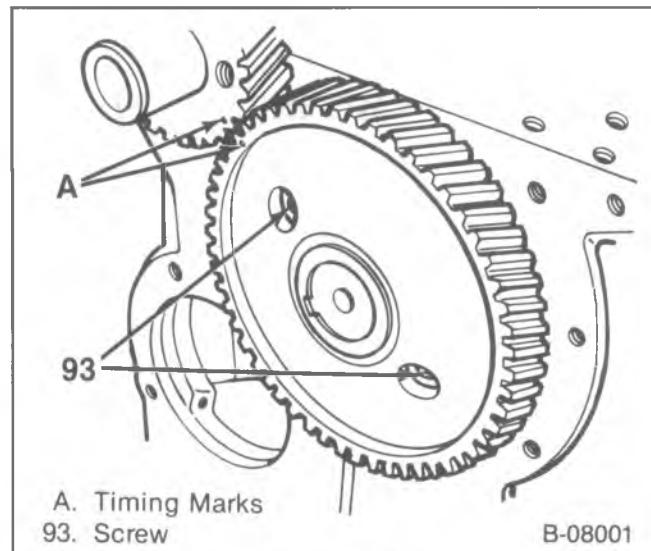

Figure 51—Timing Marks and Thrust Plate Screws
- Align the timing marks (figure 51).
- 2. Screws (93).